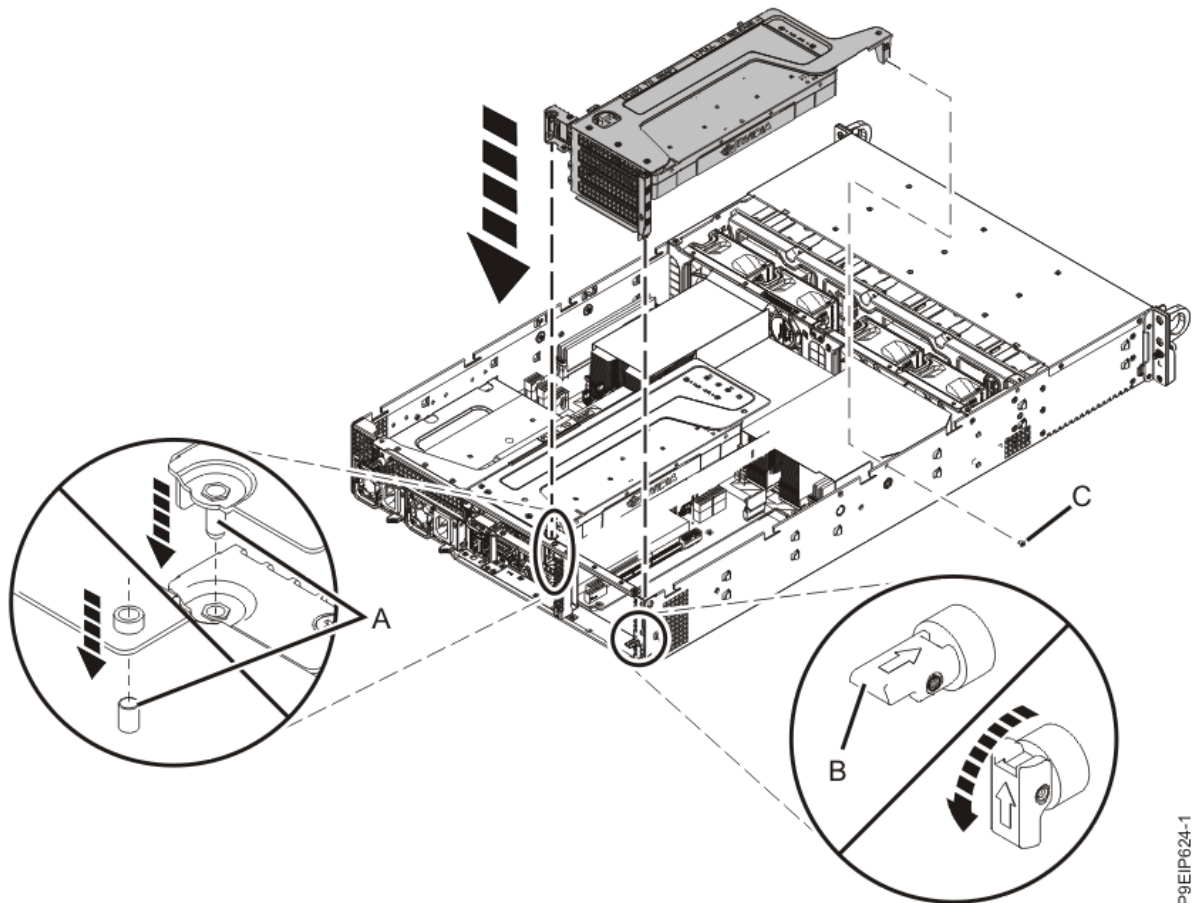

Figure 32. Inserting the PCIe adapter riser
- d) Insert the PCIe riser as shown in Figure 32 on page 33.